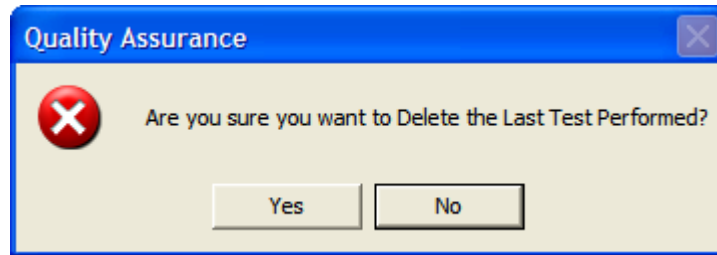

Figure 5-28
- To delete the latest test on the current screen, click the **Delete Last Test** button or press *Alt+L*. This function is not accessible when **Today's Tests** is selected. The screen appears as shown in Figure 5-28. Click the **Yes** button or press the *Y* key to confirm the deletion. Otherwise, click the **No** button or press the *N* key.
- To delete *all* the tests on the current screen, click the **Delete** button or press *Alt+D*. You will be prompted to confirm the deletion as shown in Figure 5-28 above.